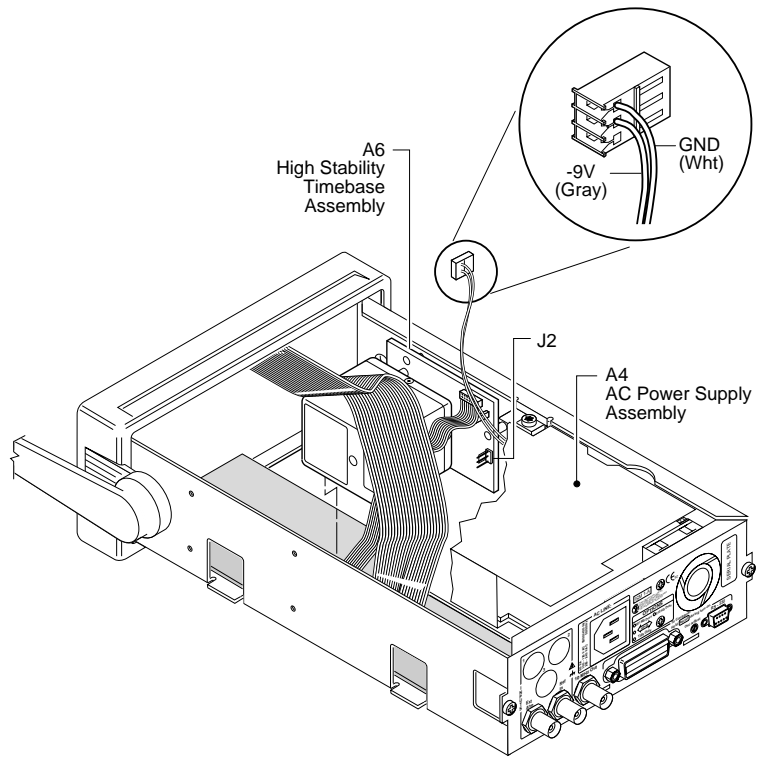

Figure 2-10. A4 AC Power Supply -9V Output Check (Option 010/012 Only)
- a. Disconnect the power supply's two-wire cable from J2 of A6 High Stability Timebase Assembly as shown in Figure 2-10.
- b. Connect the negative lead of a voltmeter to the white wire connection (GND) on the connector of the two-wire cable, and connect the positive lead to the gray wire connection (-9V) as shown in Figure 2-10.**